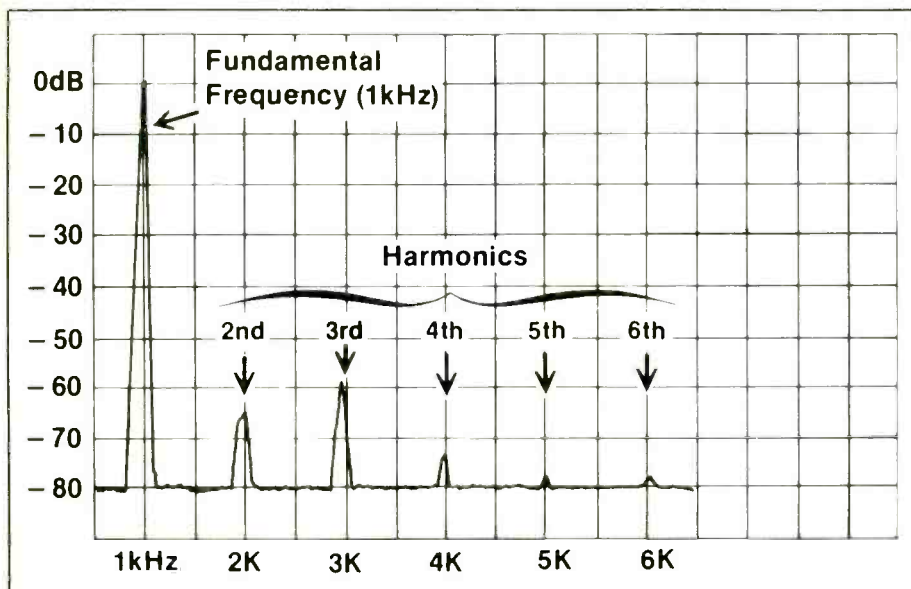

Fig. 6: Spectrum analysis of output of mixer shows relative levels of harmonics due to distortion.
*Figure 6 on page 62 was incorrectly calibrated in octave steps, rather than linear steps. Refer to the corrected diagram.*